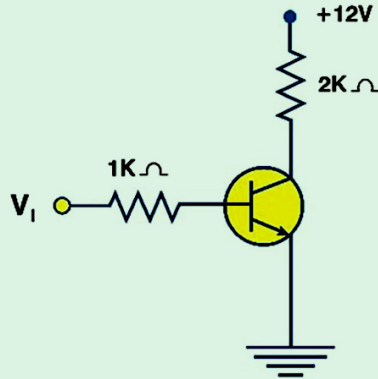

Fig. 5.15
A transistor acts as a switch by driving it back and forth between its cut-off (OFF) and saturation (ON) regions. The operating regions are shown in Fig. 5.15